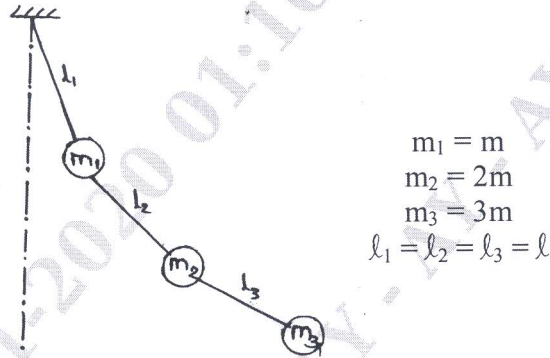

Fig Q9(b) (10 Marks)
b. Determine the influence coefficients for the system shown in Fig Q9(b)